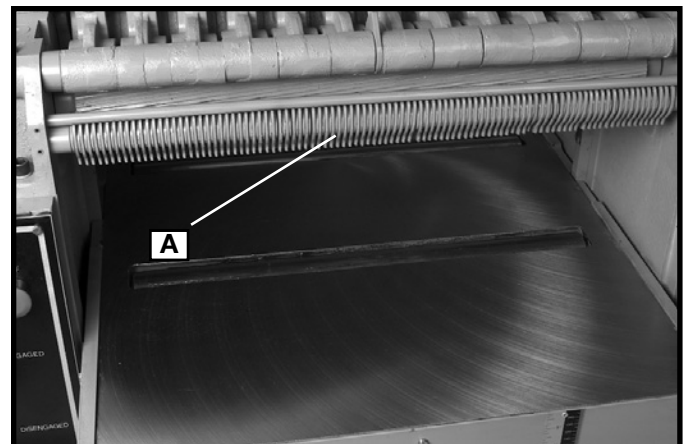

Fig. 14
Anti-kickback fingers (A) Fig. 14, are provided on your planer to prevent kickback. These fingers operate by gravity and it is necessary to inspect them occasionally to make sure they are free of gum and pitch so they move independently and operate correctly.